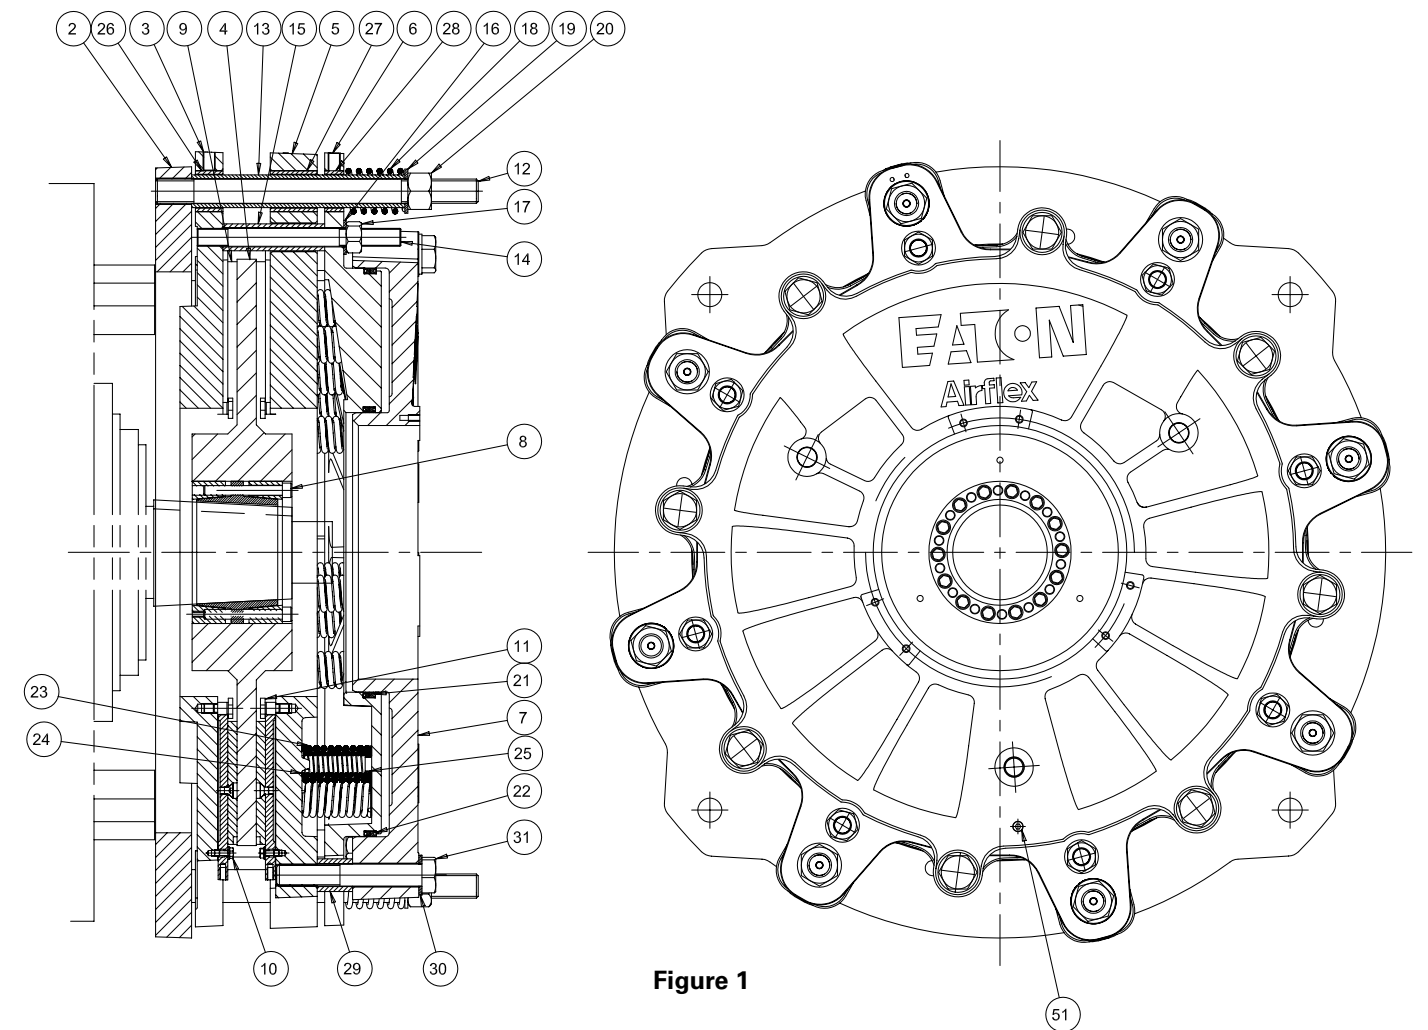

Figure 1
- 1.2.1 Referring to Figure 1, disc (4) is mounted on the shaft which is to be stopped. The brake assembly is attached to the machine frame or reaction bracket. As air pressure is applied through the ports in the cylinder (7), the cylinder and pressure plate (5), which are attached to each other with power head screws (31), power head washers (30) and power head spacers (29), and move away from the mounting flange (2). Similarly the spring housing (6) and floating plate (3), which is attached to each other with support stud (14), self-locking nuts (17), flat washers
(16) and spacer (15), move towards the mounting flange (2). The springs (23, 24) are compressed between pressure plate (5) and spring housing (6) and clamp force is removed from the disc (4) which is fixed on the shaft via taper shaft lock (TSL)(8). The shaft is then free to rotate.